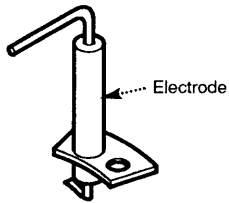

Fig. 44
9.5 Cleaning the Electrode (Fig. 44 & 45)